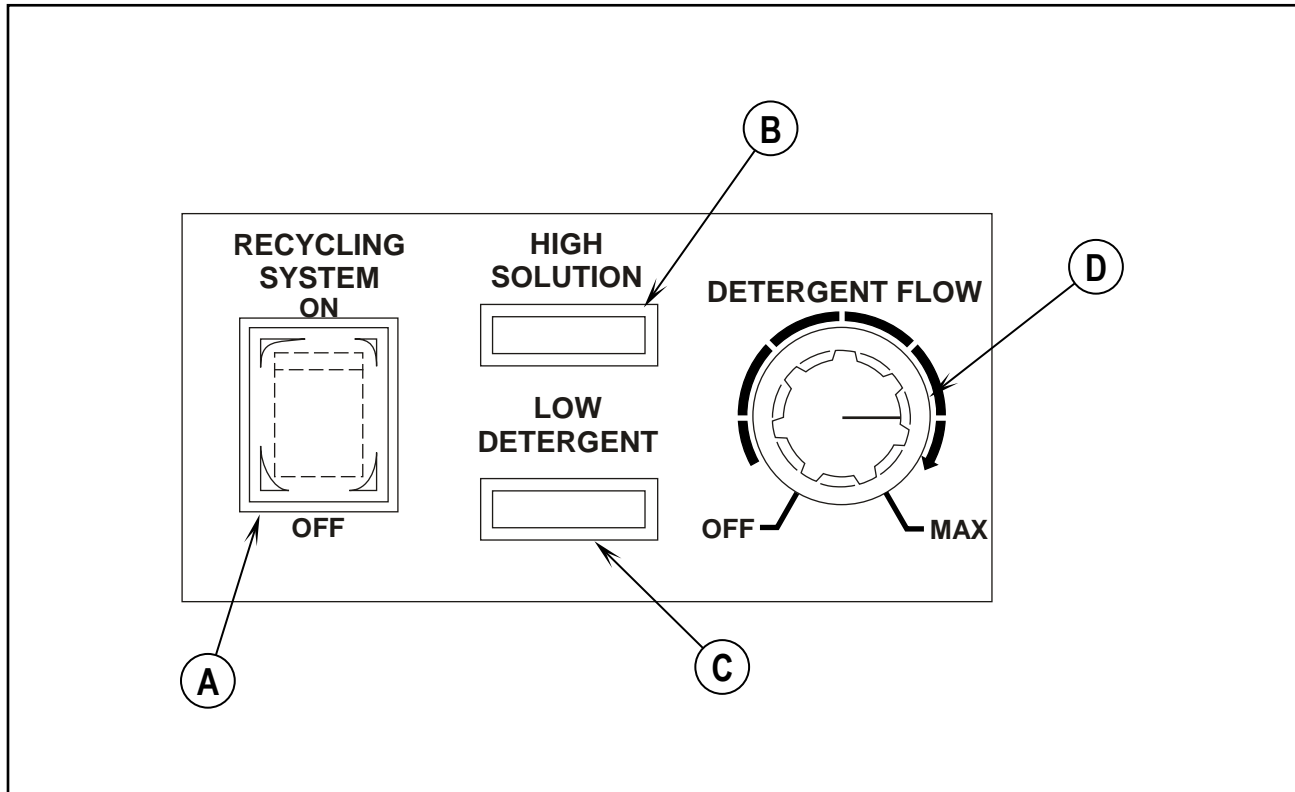

FIGURE 11
See Figure 11. The ESP Recycling System ON/OFF Switch (A) turns the ESP recycling system on and off.